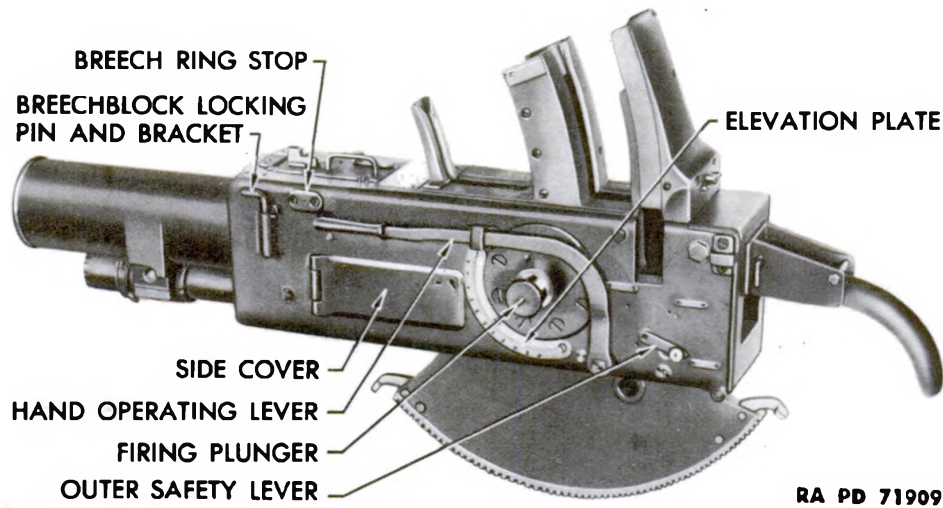
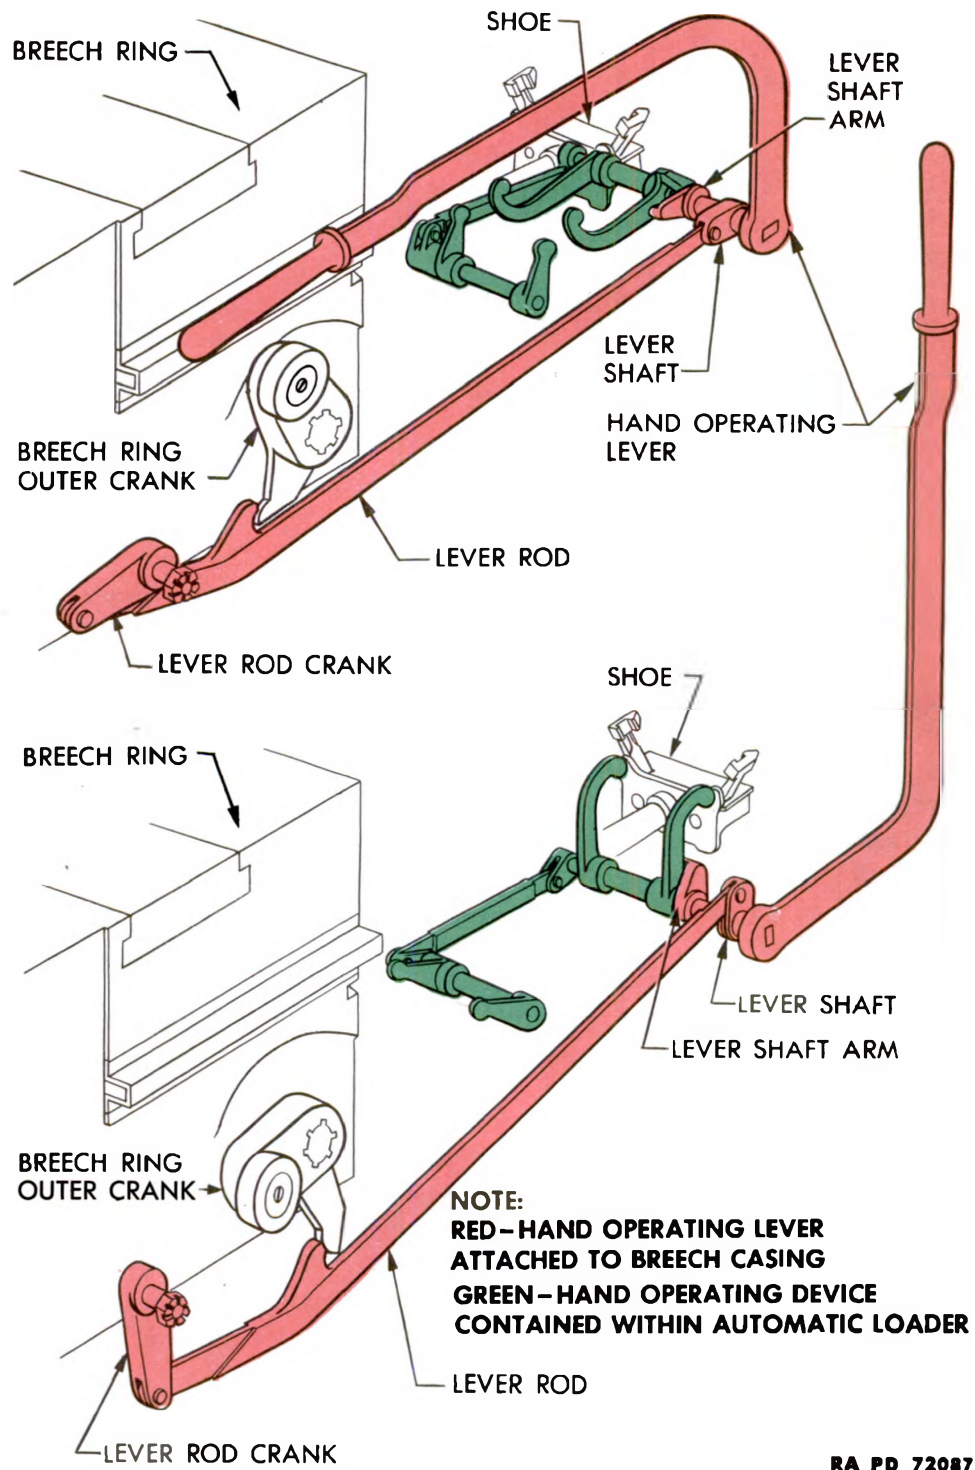

Figure 9 – Breech Casing Assembly – Left Rear View
Figure 20 - Hand Operating Mechanism and Hand Operating Device
e. On the left side of the breech casing (fig. 9) are the breechblock locking pin and bracket, side cover, hand operating lever and front and rear latch brackets, elevation plate, outer safety lever, and firing plunger. The breechblock locking pin is used to lock the breech ring in the breech casing. It is inserted through a slot in the casing and a hole in the breech ring. The side cover has a cammed
f. The hand operating lever (fig. 9) opens the breech and prepares the gun for the first round. The outer safety lever prevents the gun from being fired, allows single rounds to be fired, or permits automatic firing. The firing plunger which protrudes through the left trunnion, is the means of contact between the foot pedals on the carriage and the parts of the firing mechanism housed in the breech casing. Cartridge clips are ejected from the automatic loader and breech casing through an opening toward the rear of the left side of the casing.
h. The rear of the breech casing is closed by the rear cover (fig. 9) which acts as an abutment for the automatic loader. This cover carries the cartridge case deflector bracket. The recoil indicator is mounted on this bracket. The rear cover is hinged at the bottom and permits removal of the units within the breech casing. This cover has an opening through which the rear end of the loading tray moves in recoil and counterrecoil, and through which the empty cartridge cases are ejected against the cartridge case deflector and down into the cartridge case chute.
(1) The hand operating mechanism opens the breech manually (red in fig. 20). It also actuates the rammer cocking lever shaft assembly and the feed roller catch release spindle assembly (hand operating device) of the automatic loader (green in fig. 20). The hand operating mechanism consists of the hand operating lever (figs. 9 and 20), lever shaft, lever rod, lever crank, and lever shaft arm (figs. 8 and 20), all of which are mounted on the left wall of the breech casing. The parts of the hand operating device are described in paragraph 17 c.
(2) When the hand operating lever is pulled to the rear, the hand operating lever shaft is rotated. This shaft pulls the front end of the hand operating lever rod downward and to the rear, the motion being limited by the hand operating lever rod crank. A projection on the hand operating lever rod engages the lower arm of the breech ring outer crank and rotates the crank, opening the breech. The breechblock is held in open position by the action of the extractors.
(3) If the gun is not to be fired immediately, the hand operating lever is placed in the rear latch bracket. The projection on the hand operating lever rod will hold the lower arm of the outer crank in place, preventing the breechblock from being raised. At the same time, the rear end of the lever rod prevents the operation of the breech casing firing mechanism. When the hand operating lever is returned to its forward position (fig. 9), the breechblock is freed, permitting the firing of the gun.